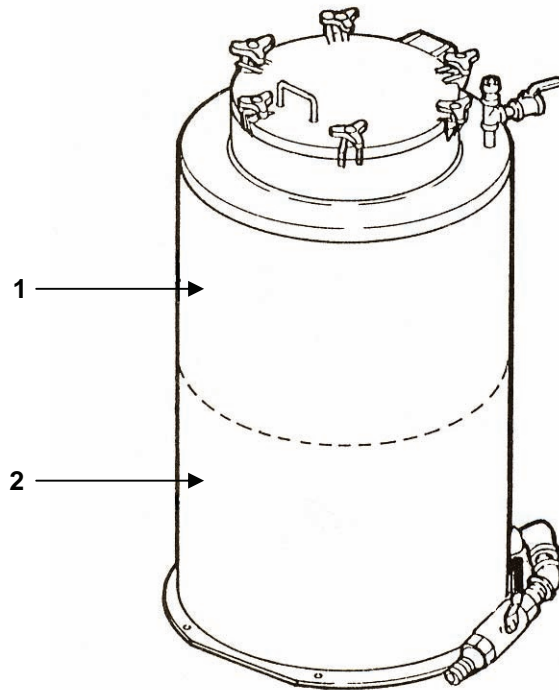

Figure 7. Operation of NBC Filter
- a. High Pressure Pump (1). This is a three-plunger positive displacement pump. It pumps 101 gpm (382 lpm) pressurizing the water to the RO vessels (2). The pump is belt-driven by a 60 hp motor. Pump speed and delivery are fixed. The pump is mounted in a package separate from the ISO container. Restriction of the water supply (blocked intake flow) will cause extreme vibration of the pump, therefore, a low pressure switch (3) will automatically shut down the ROWPU. Extreme discharge pressure from the pump is unsafe, therefore, a high pressure switch (4) will also automatically shut down the ROWPU.
- b. RO Vessels (2). The pressurized feed water is discharged through a high pressure hose to a manifold connecting the top two RO vessels. Pressurized water enters the top two vessels and as it passes across the membrane sheets, some of the water passes through and is collected in a central product water tube. The feed water, now containing a higher concentration of dissolved (higher TDS), discharges through an end fitting into a high pressure pipe which directs the water back to the inlet end of the corresponding lower RO vessel. The water similarly passes across the membrane sheets within the lower vessels, producing additional product water.
- c. **System Pressure Control Valve (5).** The remaining feed water leaving the bottom RO vessels is now waste water and contains concentrated salts. From each vessel, it passes through an orifice to decrease the pressure and then is combined to pass through the high pressure control valve and another orifice. This valve controls the working pressure of the system. By controlling the pressure of the system, the valve controls the amount of product water made. A high pressure switch (4) limits the pressure to 900 psig (6205 kPa).
- d. **Product Water.** The product water from each vessel is collected in a header and piped to the outlet. An in-line TOS meter (6) and portable TDS meter monitor dissolved solids content to assure that product water meets potable water standards. Just before the outlet, calcium hypochlorite is added to disinfect the product water. The chlorinated product water is called potable water. When the TDS meets potable water standards, the product water hose is manually inserted in a storage tank. When the product water does not meet potable water standards, the hose is directed to waste. A pressure switch (7) shuts down the ROWPU if hose blockage causes high pressure.
NBC Filter (Figure 7). The ROWPU can decontaminate waters which contain nuclear, biological or chemical agents. The feed water filters and the reverse osmosis elements remove most of these agents, however, safe levels are not assured. When decontaminating NBC contaminated water, the product water is additionally passed through the NBC filter for final agent removal. After filtration, the water is chlorinated and is potable. The filter is connected by jumper hoses when required. The filter contains a layer (bed) of activated carbon (1) and a layer (bed) of ion exchange resin beads (2). The NBC agents are removed by these materials. The carbon and resin beads are replaced after each 100 hours of water production to assure that there is always capability to absorb NBC materials.